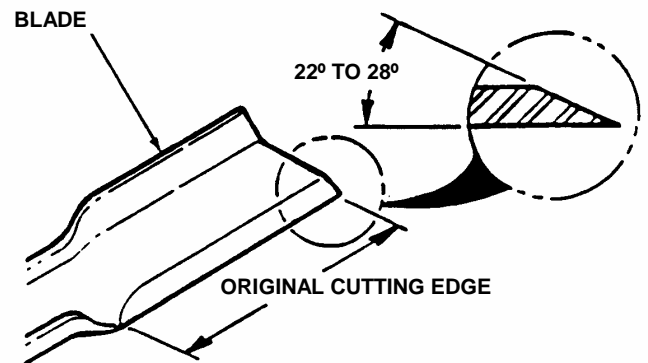

FIGURE 5.16
3. If blade is in good condition, sharpen at 22 to 28 degrees. DO NOT sharpen beyond original cutting edge. See Figure 5.16.